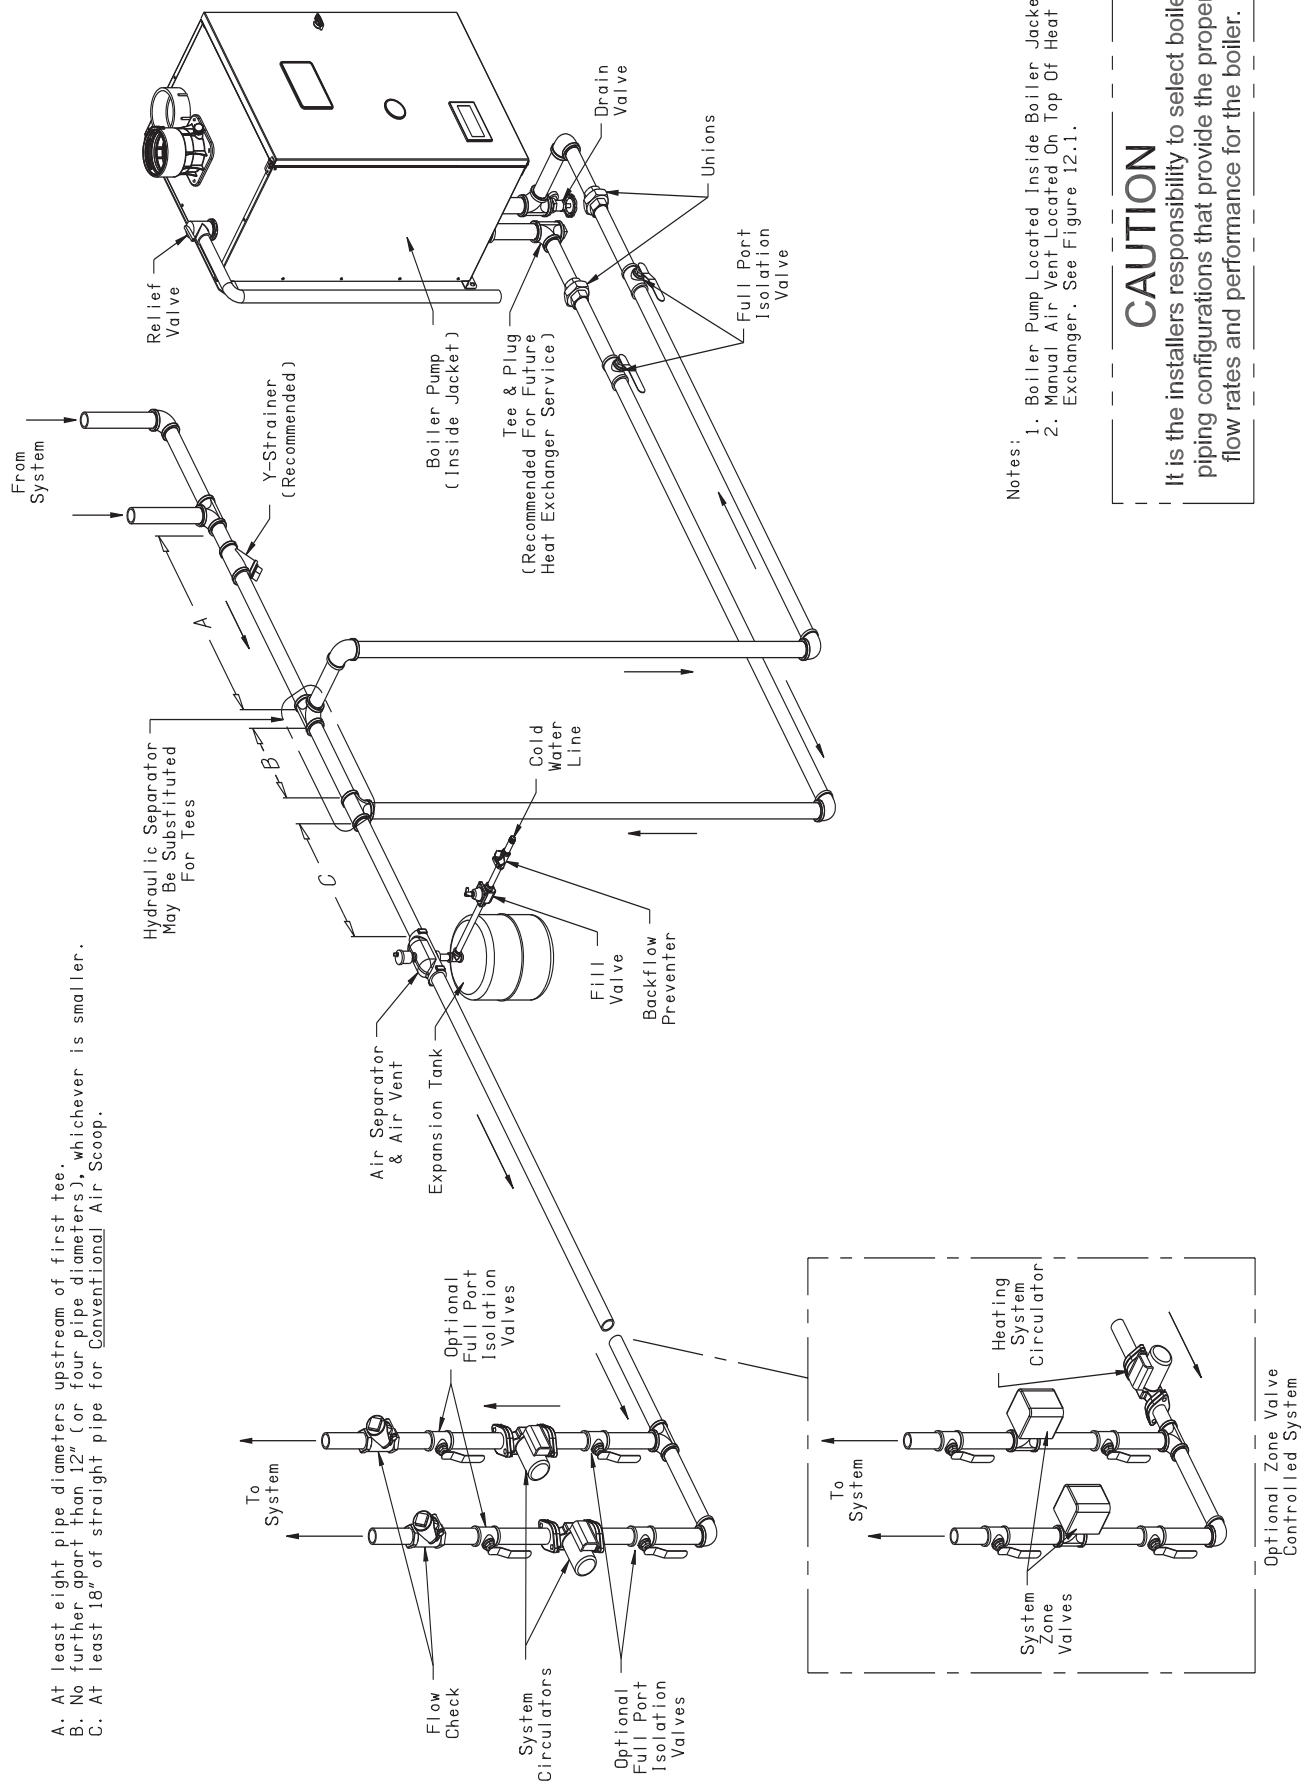

Figure 9.2: Piping Method #1 - Near Boiler Piping - Heating Only
9. Drain Valve (required) – Install the drain valve (provided by the installer) as shown in Figure 9.2.
This method is shown in Figure 9.2. In this system, the flow rate through the boiler ("secondary loop") is completely independent of the flow rate through the system ("primary loop"). Use the following guidelines to ensure that the boiler will have the required flow shown in Table 9.1 regardless of the flow in the heating system.
3. Hydraulic Separators—Hydraulic separators serve the same purpose as the closely spaced tees connecting the boiler and system loops in Figure 9.2. They also generally provide effective connection points for automatic air elimination devices and an expansion tank. These separators are available from several sources and may be used in place of the closely spaced tees shown in Figure 9.2. When a hydraulic separator is used in place of the tees, the 60 ft equivalent length limitation still applies. Select a hydraulic separator having 1" or larger boiler connections that is designed for the boiler flow rates shown in Table 9.1.